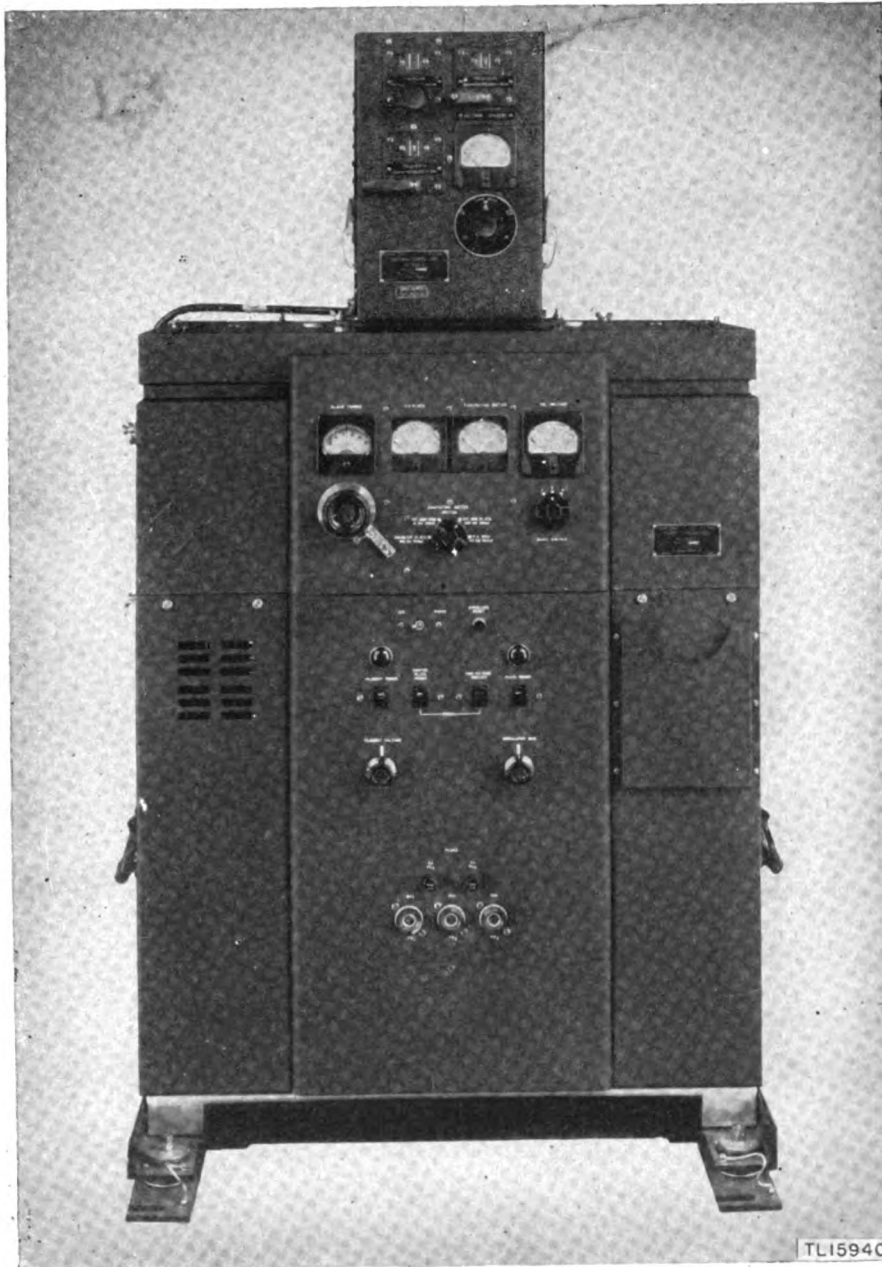

Figure 5. Radio Transmitter BC-610-E with Antenna Tuning Unit BC-939-A in position.
a. RADIO TRANSMITTER BC-610-E (fig. 5).